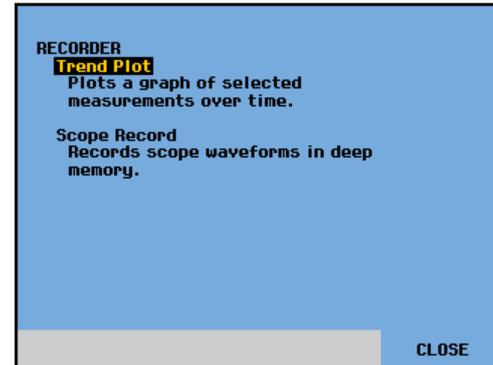

Figure 14. Recorder Main Menu
- 1  Open the recorder main menu. (See Figure 14).